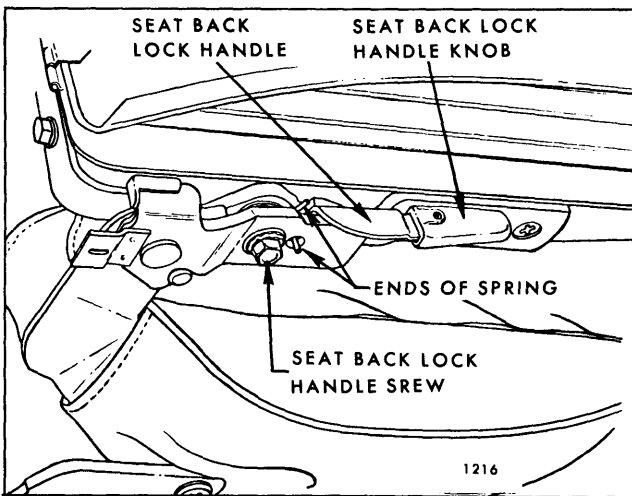

Fig. 15-79—Seat Back Lock
2. Install lock handle, bushing and spring into position between seat back panel and outer linkage making sure end of spring is engaged in hole in outer link (Fig. 15-79).